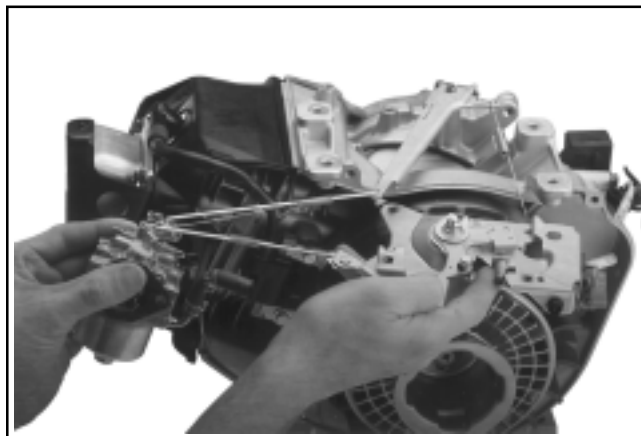

Figure 9-15. Removing Control Bracket on CS8.5 (spec. 95xxxx).
- On CS8.5 (spec. 95xxxx) remove the single hex. flange screw securing the throttle control bracket to the crankcase. See Figure 9-15.